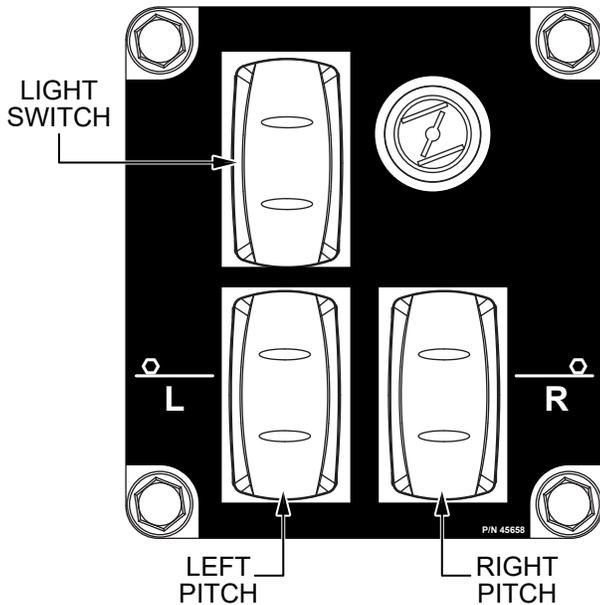

Figure 28. Left-Hand Switch Panel
6. Try adjusting the pitch of the blades using the **left and right blade pitch control switches** (Figure 28). This can be done with the trowel stopped or while the trowel is moving.
7. Use the **light switch** (Figure 28) to test the operation of the trowel lights.